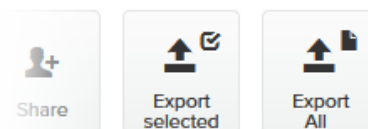

Figure 71. Plug-ins web page (code export controls)
4. To export only selected Activation codes, check the selection check-boxes to the left of each plug-in that must be included in the *.CSV file, then click the **Export selected** button. Alternatively, export all Activation codes by clicking the **Export All** button (Figure 71 \(page 152\)).